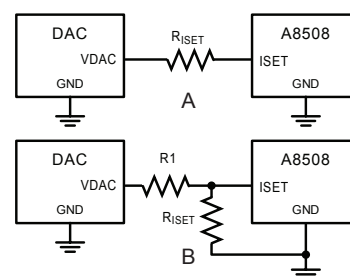

Figure 17. Typical application simplified diagram of voltage LED current control using a DAC to control LED current.
The A8508 can also be dimmed by using an external DAC or other voltage source applied either directly to the ground side of the R_{ISET} resistor or through an external resistor to the ISET pin (see figure 17). The ISET current can be varied in the range between 34 μ A and 130 μ A.
- For a single-resistor configuration (panel A of figure 17), the ISET current is controlled by the following formula:
- For a dual-resistor configuration (panel B of figure 17), the ISET current is controlled by the following formula: